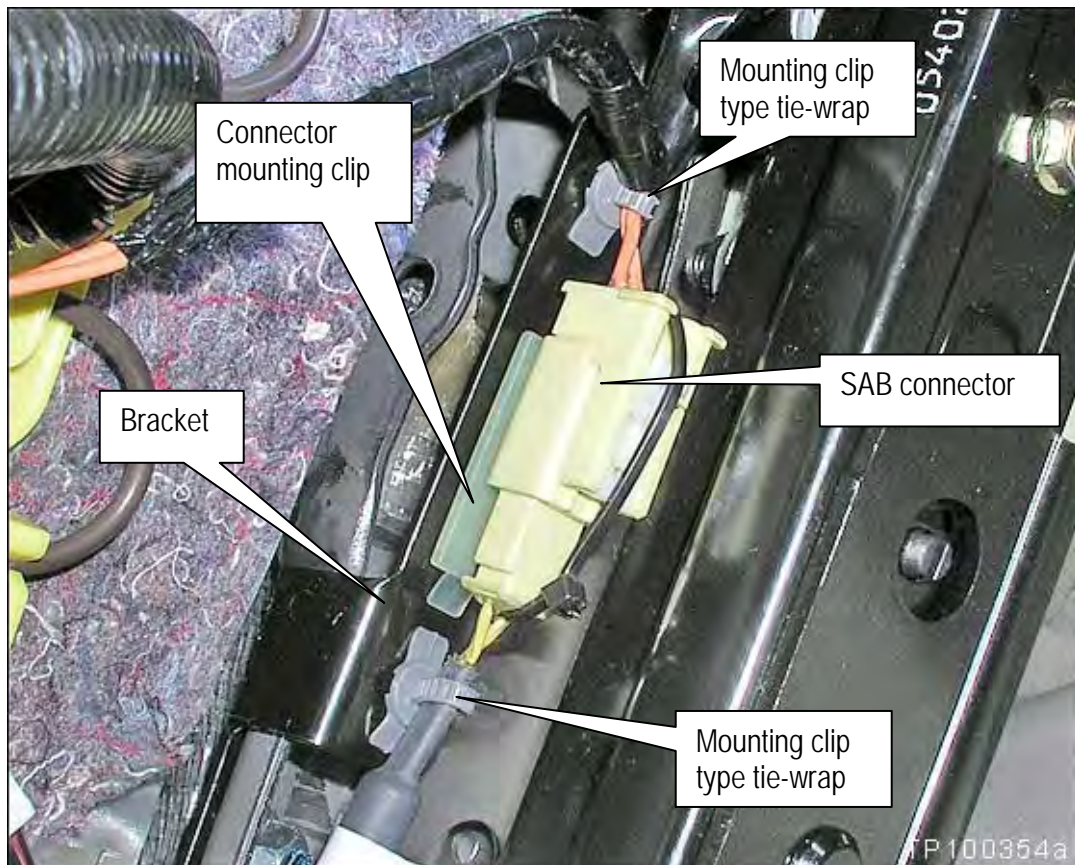

Figure 1a
- Figures 1a through 5a are used for both the driver seat and the front passenger power seat.
1. Look under the seat and locate the SAB connector (see Figure 1a).